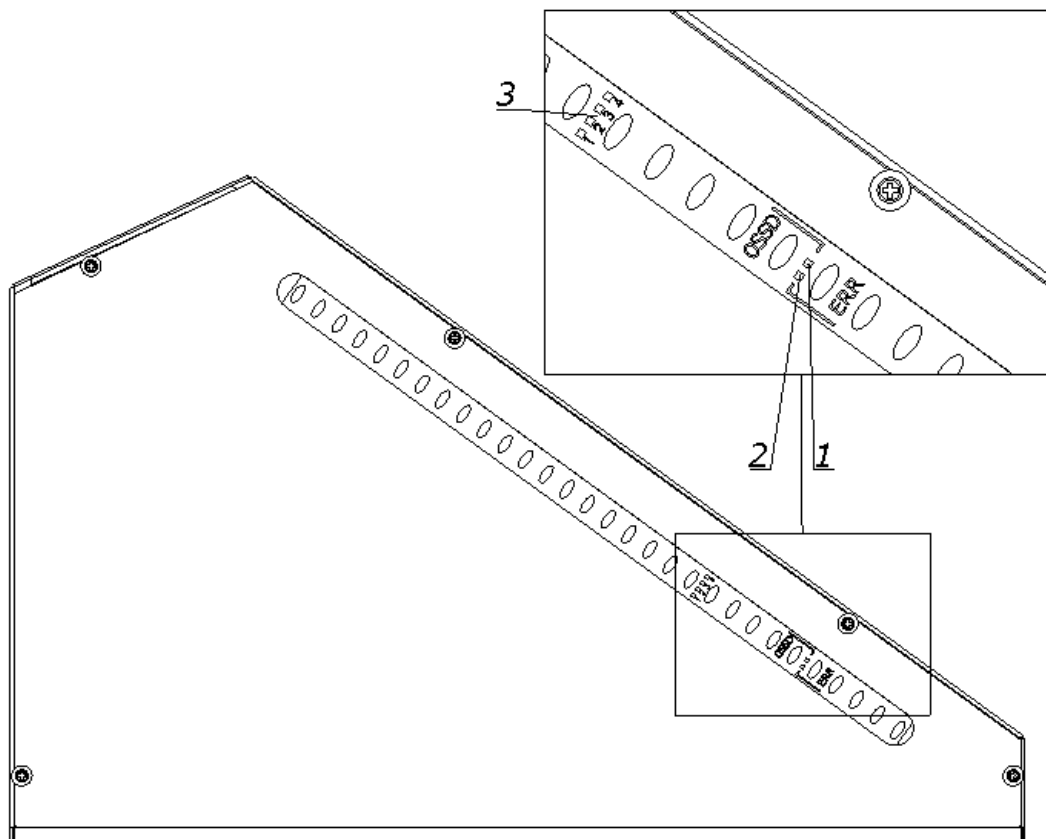
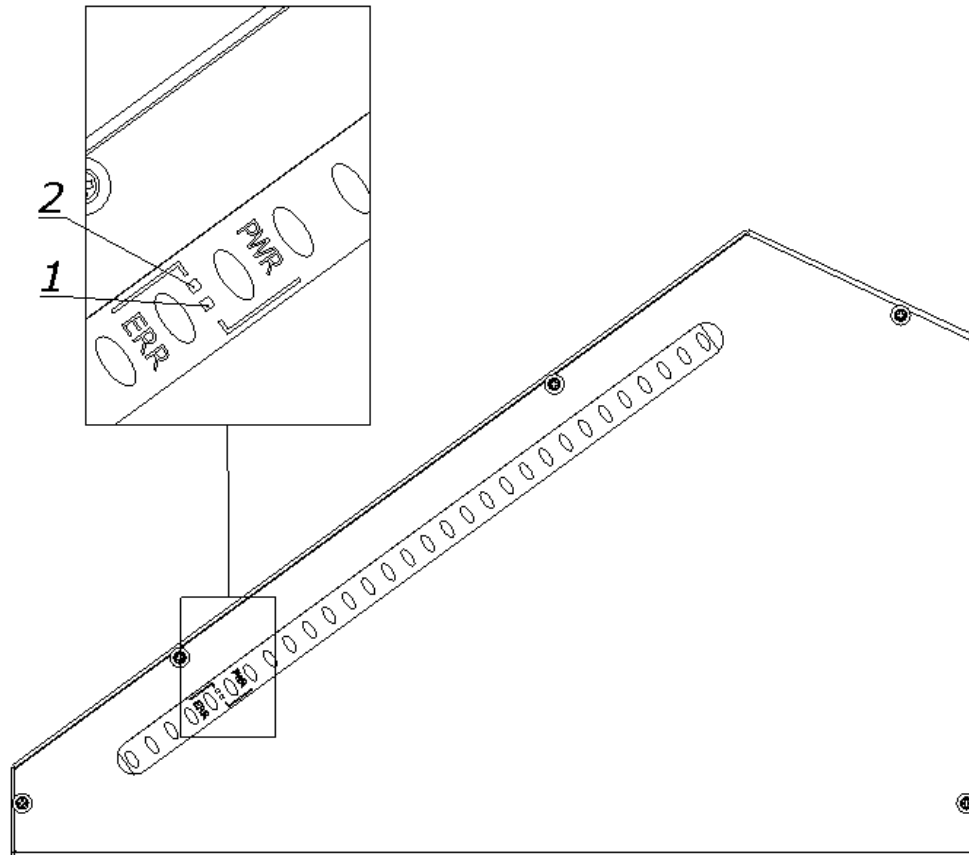
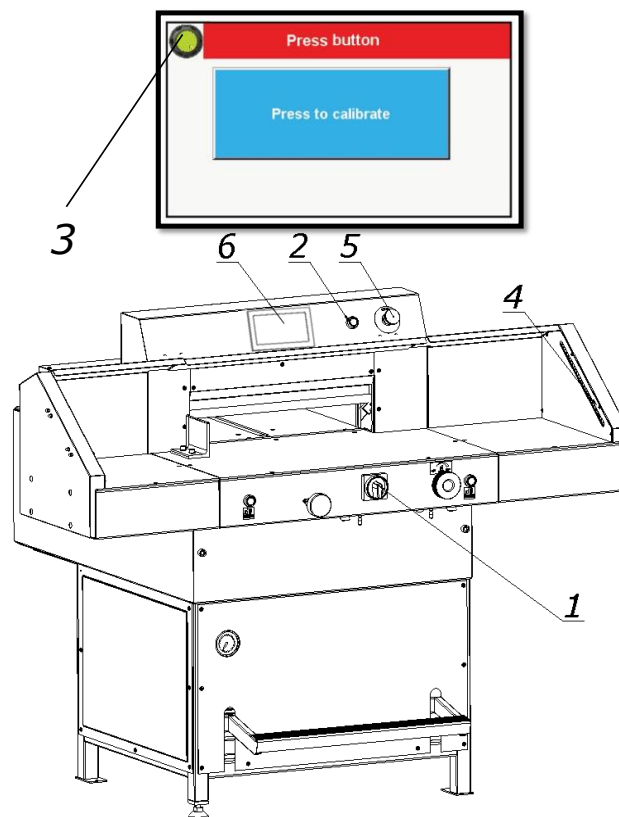

Figure 11. Indicators of the LED safety curtain receiver
Figure 12. Indicators of the LED safety curtain transmitter
Figure 15. Arrangement of the elements used when switching on the cutter.
1. Set the main switch 1 to "ON" 1 position (Fig. 15)
2. Press the green button 2 (Fig.15)
- green LED 3 on the program unit 6 display lights up (fig.15)
- the green OSSD 1 LED lights up (Fig.11) in the receiver 4 (Fig.15)
All transmitter and receiver LEDs will light for a moment. After initialization the receiver indicates the quality of the setting using four blue LEDs 3 (Fig.11). Table 9.
The setting indicator extinguishes after a suitable time when the safety light curtain is set (the LED of the device switching the output signal: green item 1 figure 11) and only the PWR LED of transmitter 1 (fig.12) and LED 1 (fig. 11) device for switching the output signal of the receiver.
1. Press the button, 5 (Fig.15)
1. Unlock button, 5 (turn it to the left, it will pop out) (Fig.15)